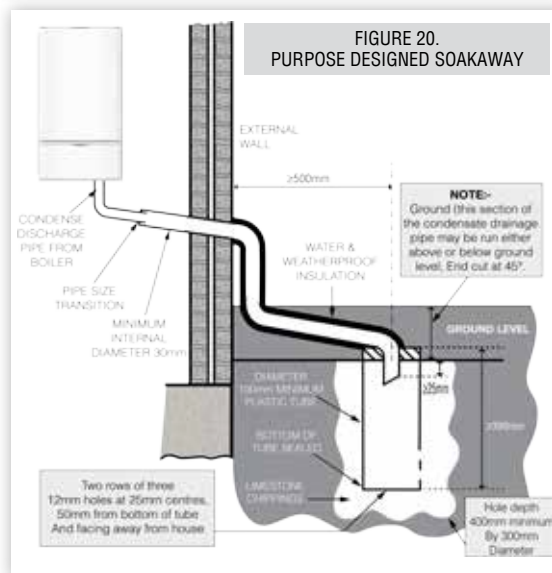

FIGURE 20. PURPOSE DESIGNED SOAKAWAY
- 11.10 Where the condensate drain pipe terminates in a purpose-designed soakaway (see BS 6798 or boiler installation manual for soakaway design requirements) any above-ground section of condensate drainage pipe should be run and insulated as described above. Figure 7 shows a suitable connection method. See Figure 20.